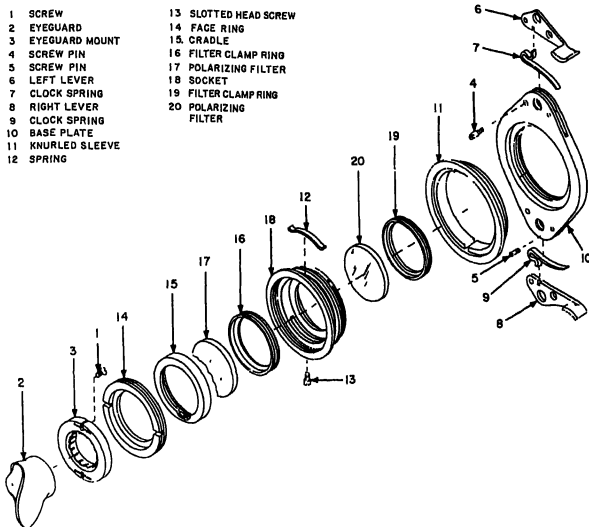

Figure 12-13.—Variable density filter attachment assembly.
As you can see in figure 12-13, there is a horizontal and a vertical slot at the top and bottom of the eyeguard mount (3). At the intersection of the slots, there are tapped holes
to accept bevel head friction screws (1). These screws are installed from the rear, as shown in figure 12-13, but are not tightened until the eyeguard mount is slipped into the face ring. The shoulder on the face ring prevents access to the screwheads, so the ends of these screws are slotted for a jeweler's screwdriver. When the eyeguard is properly oriented, turn the friction screws counterclockwise from the front to spread the slots in the eyeguard mount. This will lock the eyeguard mount in the face ring.